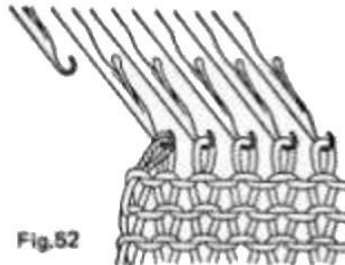

Fig.52
- (a) With the single eye transfer tool, transfer the stitch from the end needle onto the 2nd needle. (Fig.52)
- (b) Push the empty needle back to position (A).